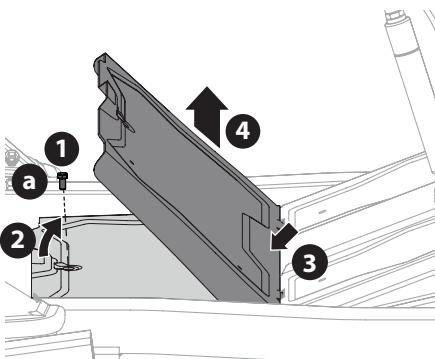

Figure 28
- Using the multi-tool or a 1/2 inch socket, remove the hex screw (a) that secures the floor panel in place (Figure 28).
- Carefully lift the rear of the floor panel (Figure 28).
- Slide the floor panel rearward to free the front of the floor panel (Figure 28).
- Lift it off the tractor (Figure 28).